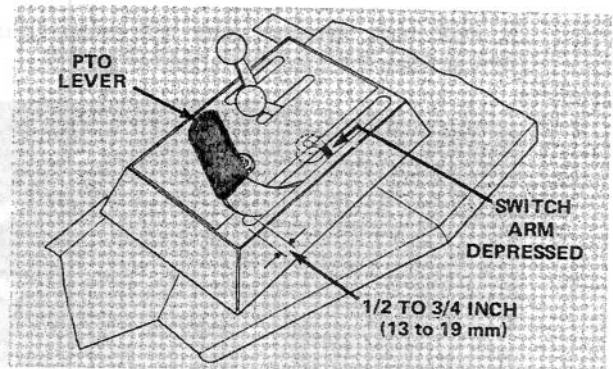
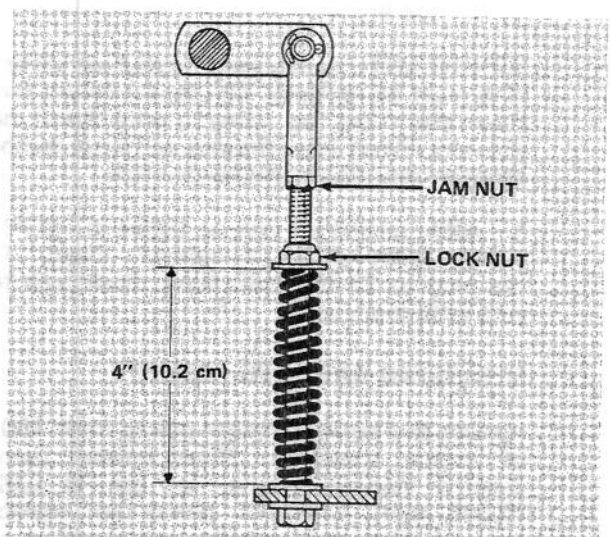

Figure 78
Figure 79
3. Visually check PTO lever to be sure it deflects switch arm when lever is in the disengaged position (Fig. 78). Back surface of PTO lever must be within 1/2 to 3/4 in. (13 mm to 19 mm) from end of the slot (Fig. 78). If PTO lever deflects switch arm, proceed to step 5. If PTO lever does not deflect switch arm, proceed to step 4.
4. Pull high tension wire off spark plug. To adjust the PTO lever, remove the seat cover. Loosen jam nut from PTO engaging yoke (Fig. 79). Loosen adjusting screw until PTO lever is within 1/2 - 3/4 in. (13 - 19 mm) from end of the slot, when lever is in the disengage position (Fig. 78). This will deflect the switch arm. Tighten jam nut against yoke to lock the adjustment in place (Fig. 79). Move PTO lever to disengage position and rotate locknut at top of spring until the dimension of spring, between the top and bottom flatwasher, is 4 in. (10.2 cm) (Fig. 79). Repeat step 3.